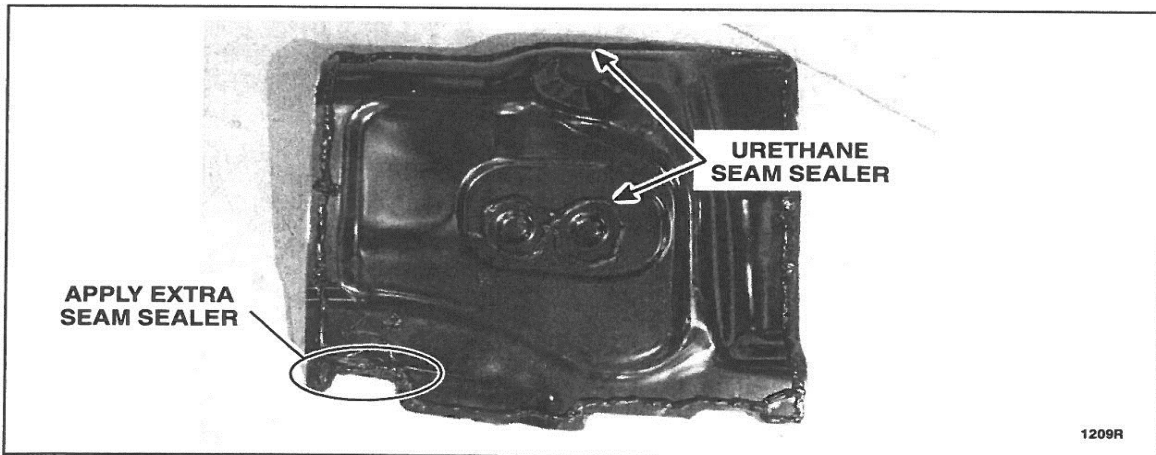

FIGURE 13
27. Using Motorcraft® Metal Brake Parts Cleaner, clean the *new* RH and LH wheel well overlay panels, in the areas where urethane seam sealer will be applied. See Figure 13.
28. Apply a continuous 9.4 mm (3/8 in) bead of urethane seam sealer around the outer edge of the *new* LH wheel well overlay panel. Apply additional sealer to the notched out area on the bottom of the overlay panel and apply a bead around the dimples in the center of the panel. See Figure 13.